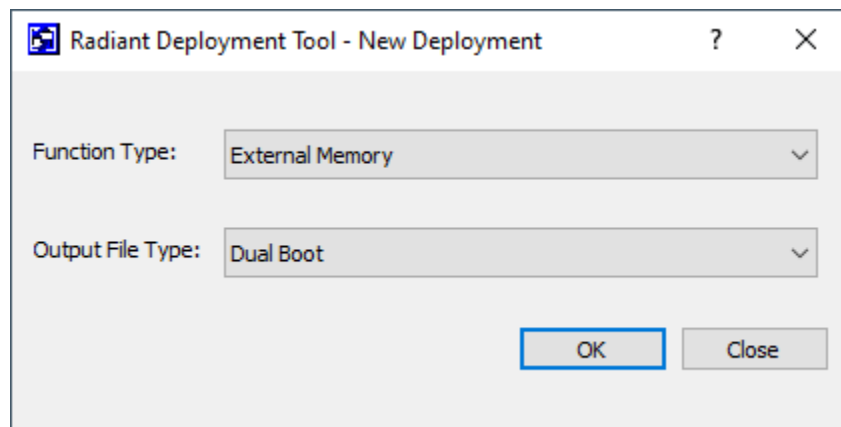

Figure 4.1. Creating New Deployment for Dual Boot PROM Hex File
- In the Radiant Deployment Tool window, select External Memory as the Function Type and select Dual Boot as the Output File Type (Figure 4.1).